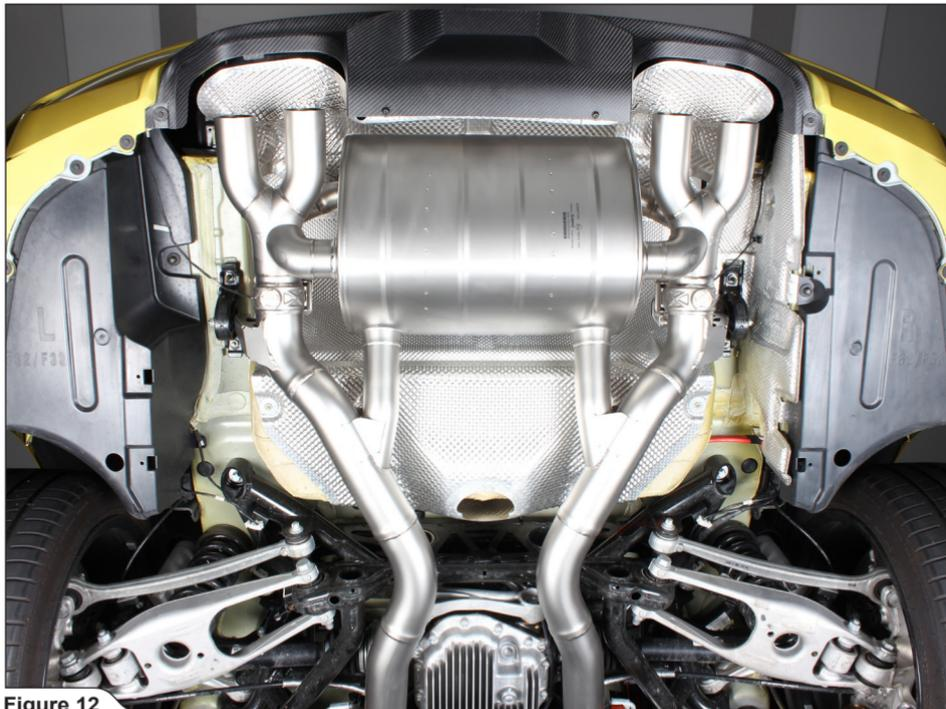

Figure 12
- Slide the muffler onto the link pipes, tighten all rubber brackets onto the chassis, reconnect the exhaust valve servos' connectors, adjust and center the adapters with clamps in the middle of the joints and tighten the clamps (Figure 12, 13, 14).